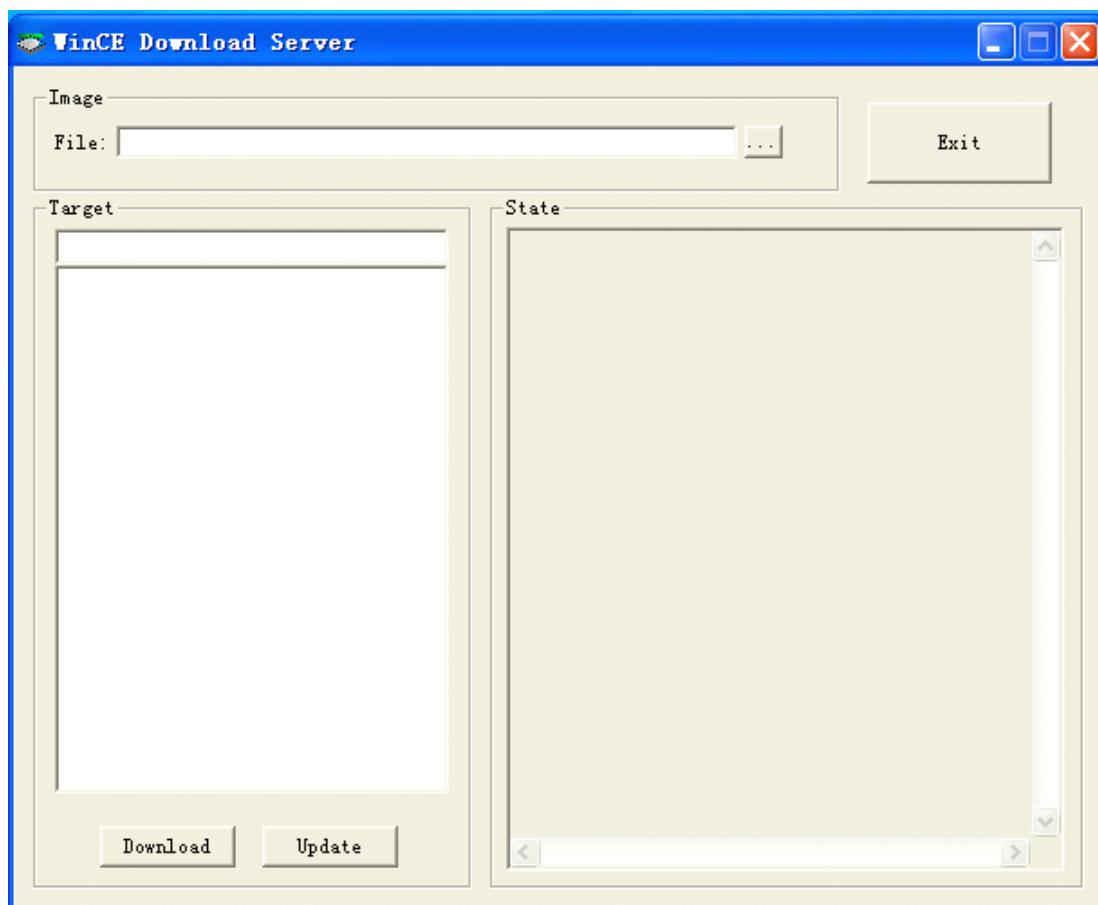
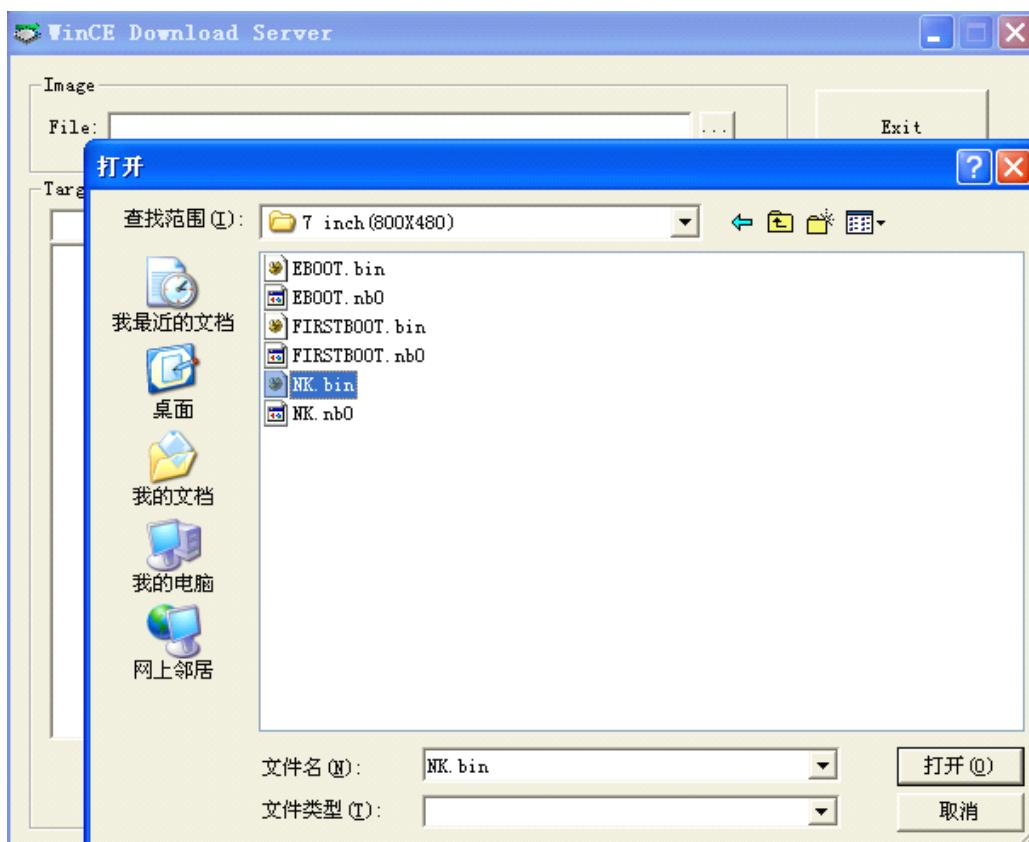

Figure 12.3.1
Figure 12.3.2
2. On development workstation running SBC6045 CD\03 WinCE 6.0 Kit\04 Tools\CEDownload.exe as Figure 12.3.1 show:
3. As shown in Figure 12.3.1, select NK.bin regenerated by SBC6045 WinCE 6.0 project or the NK.bin File regenerated by SBC6045 WinCE 6.0 project .Here I select NK.bin file provided in CD. As shown in Figure 12.3.2, select NK.bin file, the interface of CEDownload.exe will appear as shown in Figure 12.3.2.